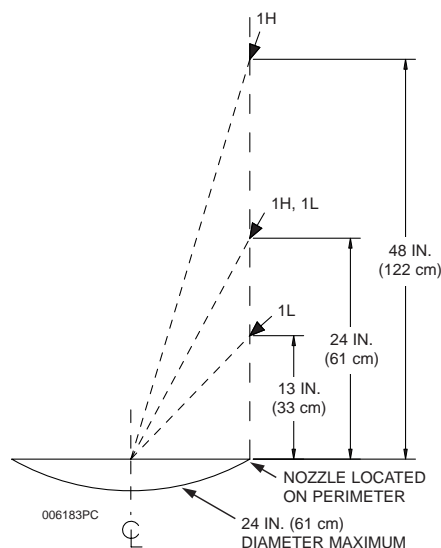

Figure 3-6.
The 1H nozzle, Part No. 551029, is used for high proximity wok protection. This nozzle is a one (1) flow nozzle. The nozzle must be located **anywhere on the perimeter** of the appliance, 24 in. to 48 in. (61 to 122 cm) above the top edge of the wok and aimed at the center of the wok. See **Figure 3-6**.
The 1L nozzle, Part No. 551026, is used for low proximity wok protection. This nozzle is a one (1) flow nozzle. The nozzle must be located **anywhere on the perimeter** of the appliance, 13 in. to 24 in. (33 to 61 cm) above the top edge of the wok and aimed at the center of the wok. See **Figure 3-6**.